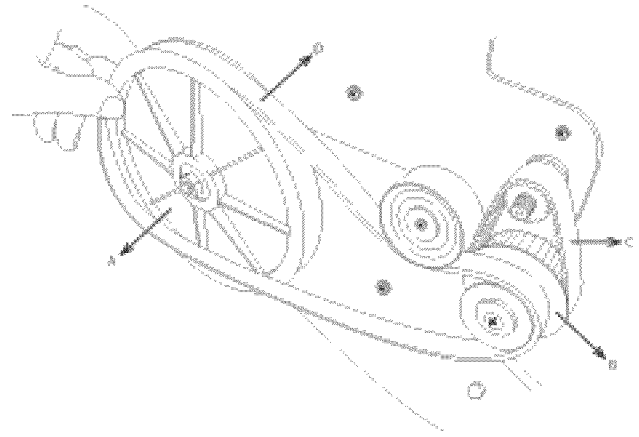

Figure 36
- Reinstall the large belt, one end on the middle pulley and one end on the big pulley (Fig. 36).